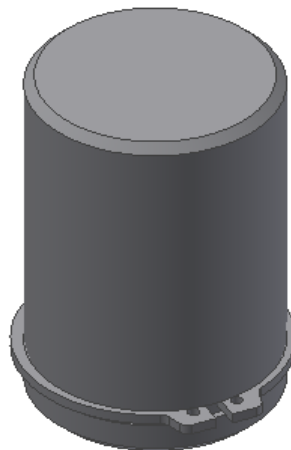

Figure 17-45 Final model after applying the iMates
5. Open the part file *circlip*; the circlip is automatically assembled with the shaft, as shown in Figure 17-45.